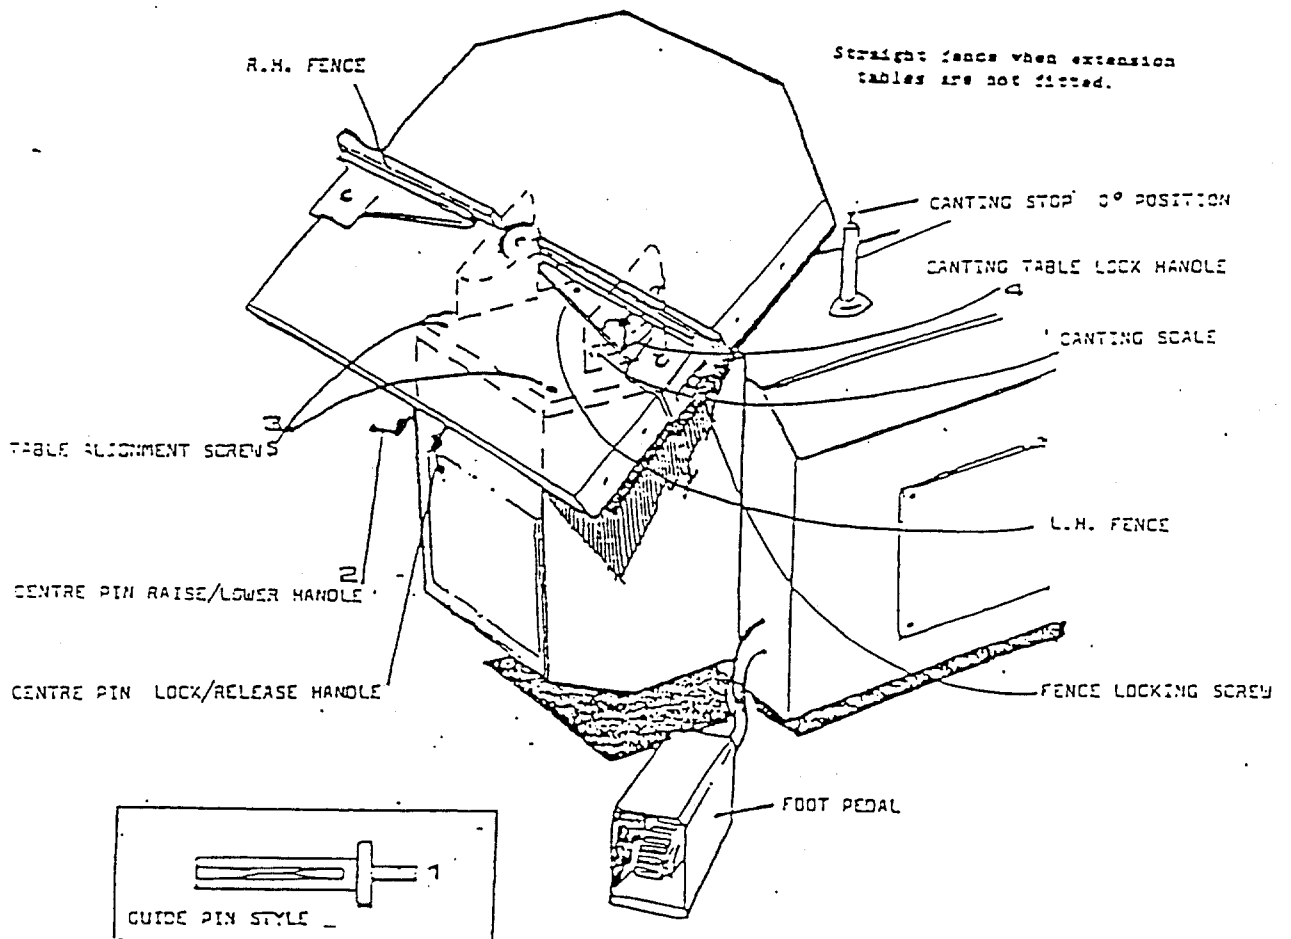

FIG. 11 LAYOUT OF CANTING TABLE MODEL UX2
1. Pin (1) can be set at three different heights by selecting Raise/Lower Handle (3).
3. Should alignment be incorrect, loosen four screws (4) under table and reset as necessary.
4.7 CANTING TABLE MODEL UX 2 (See Fig. 11)
2. Should alignment be incorrect loosen four screws (3) which secure canting unit to knee bracket and reset as necessary.
3. Fences can be adjusted to suit, either in front of pin as shown in Fig. 11 or behind pin when table is in 0° to -10° position.